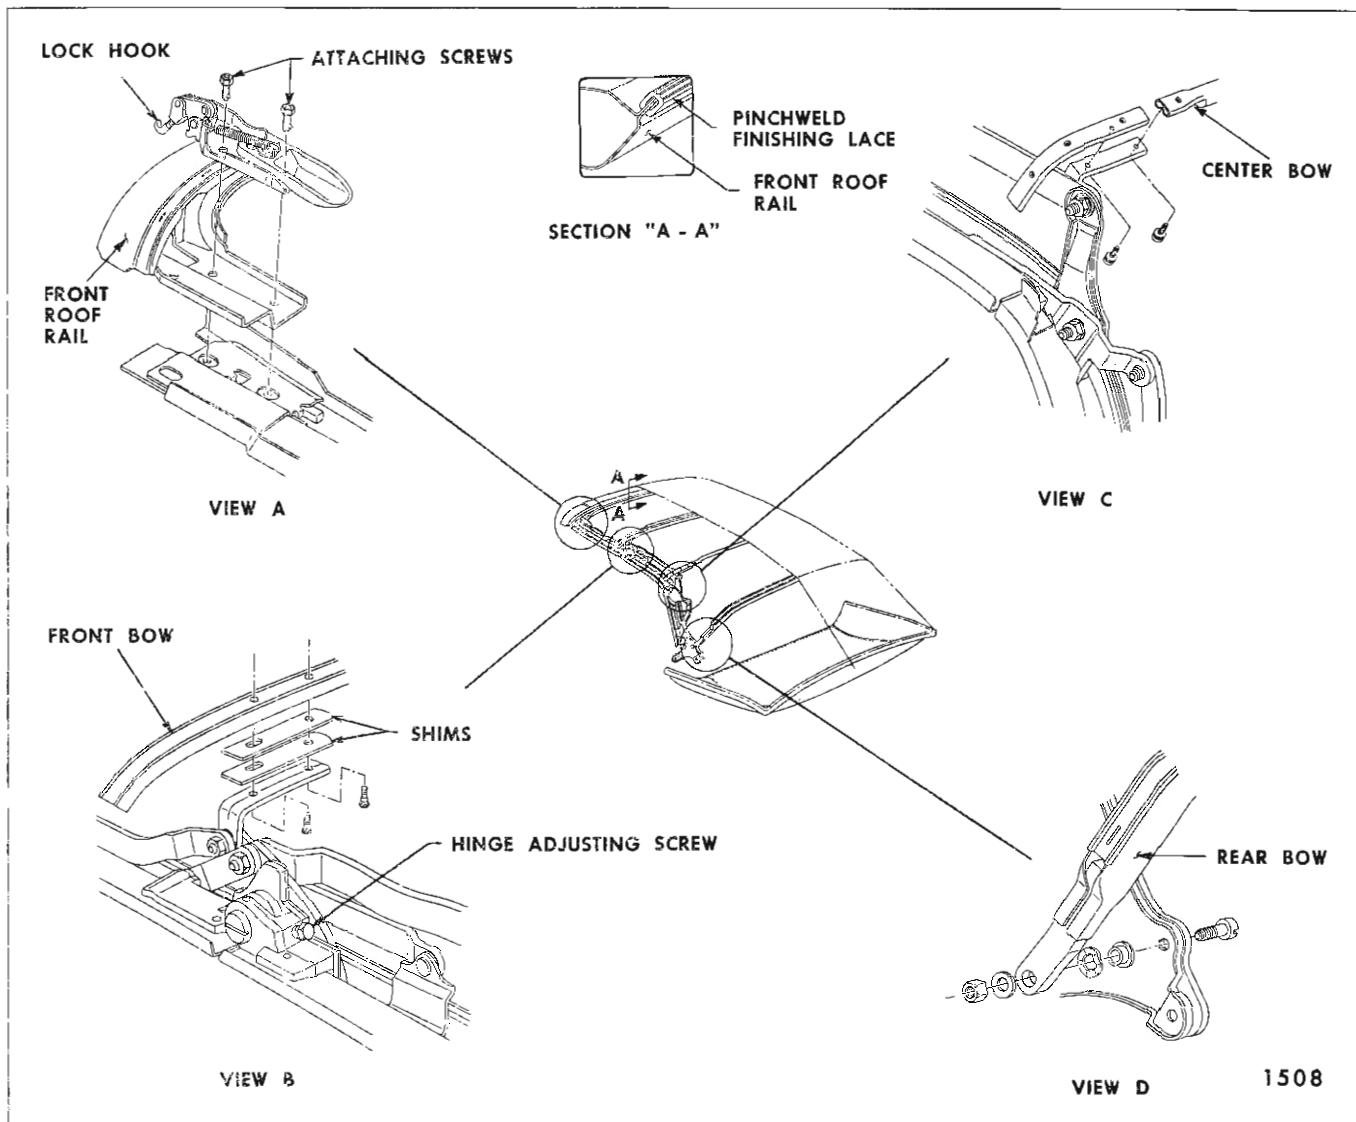

Fig. 2-I-55—Folding Top Linkage
2. With top in a half-open position, remove lock attaching screws; then remove lock assembly from front roof rail. (See View "A", Fig. 2I55).